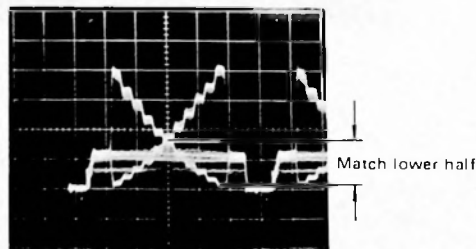

Fig. 4-4-41
- Adjust R. TRACKING-1 VR207 so that the R signal matches the Y_L signal in the lower half of the gray scale waveform. (Fig. 4-4-41)